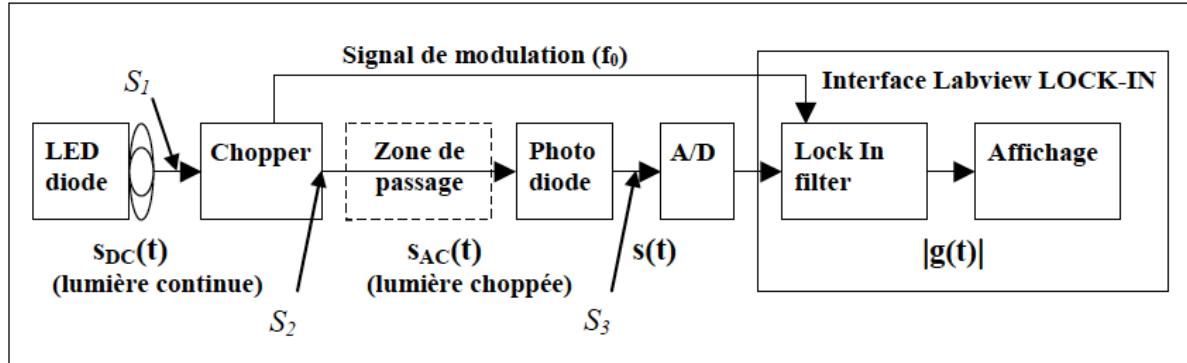

Figure 2: *Synchronous Detection: Schematic showing the working principle.*
To better understand the working principle of the synchronous detection, let's consider an optical barrier composed of a light emitting diode (LED) and a photodiode. An optical barrier can be employed to count the number of people at the entrance of a store (see Figure 2). Instead of using a continuous light beam, we use a “chopped” beam (i.e., an amplitude modulated light beam with modulating frequency f_0). This “chopping” can be performed by: (1) driving electrically the LED with an AC voltage at frequency f_0 or (2) by placing a mechanical chopper (e.g., a rotating disk with openings) in front of the LED powered with a DC voltage. In this TP we will use a mechanical chopper placed in front of a LED powered